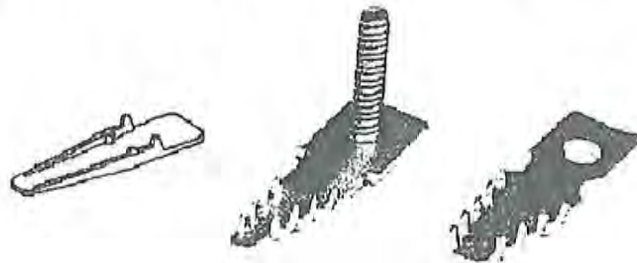

Figure 4 - Gator Clamp
2.06 The Gator Bond Clamp, shown in Figure 4, is suitable for use on all cable sizes. It provides simpler installation than B bond clamps because it does not require slitting of the cable jacket except for cables less than 1 inch in diameter or for cables with polyethylene foam skin insulated metallic conductors. A plastic shoe, which facilitates installation of the bottom plate, is available. Use of the shoe also requires slitting of the cable jacket. This clamp is furnished with two hex nuts with captured external tooth lock washers.